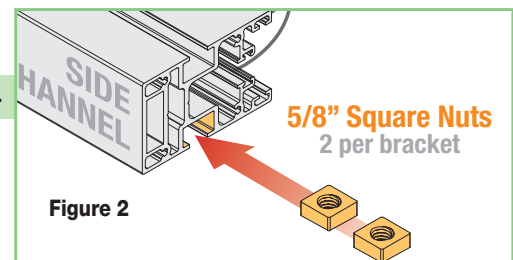

Figure 2
2. Slide the 5/8" Square Nuts (2 per mounting bracket) into both side channels (see fig. 2.)